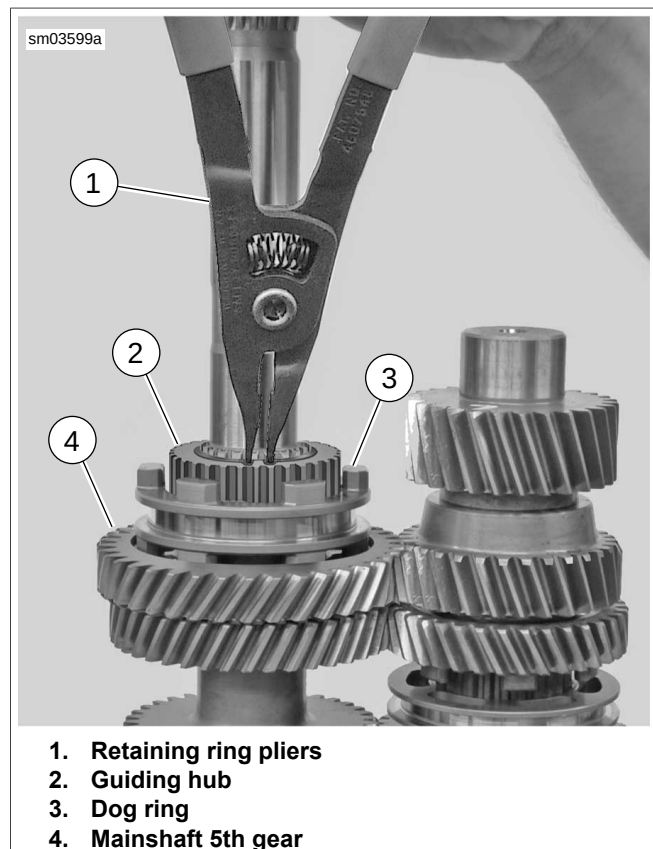

Figure 6-16. Mainshaft Retaining Ring
1. See Figure 6-16. Using TRANSMISSION SHAFT RETAINING RING PLIERS (Part No. J-5586A), remove retaining ring. Remove dog ring (3), guiding hub (2), mainshaft 5th gear (4) and bearing.
- See Figure 6-16. With bearing housing on end (shafts pointing upward), install **new** bearing and mainshaft 5th gear (4).
- Verify guiding hub counterbore is facing mainshaft 5th gear. Install guiding hub (2) and dog ring (3).